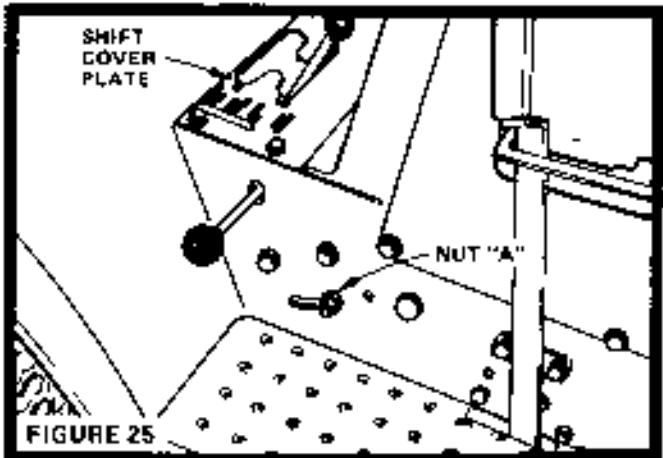

FIGURE 25
- a. Remove (4) Hex Washer Head Tapping Screws from Shift Cover Plate (Fig. 25), located on top of tractor frame. Remove the Cover Plate.
- a. To tighten Belt, remove (4) Hex Washer Head Tapping Screws from Shift Cover Plate (Fig. 25) located on top of tractor frame. Remove the Cover Plate.
- c. Loosen Nut "A" located on outside of R.H. Chassis Frame (Fig. 25), slide Take-Up Idler down approximately $\frac{1}{2}$ " and tighten Nut "A".